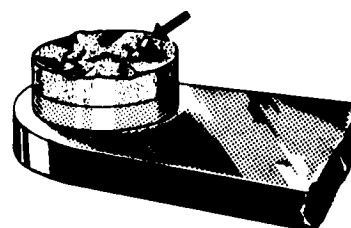

Figure 8-10. Contact Points.
- g. Remove the breaker cover and harness securing screws and nuts and separate cover from magneto housing. Check contact assemblies to see that cam follower is securely riveted to its spring. Examine the contact points for excessive wear or burning. Figure 8-10 shows how the average contact point will look when surfaces are separated for inspection. Desired contact surfaces have a dull gray, sandblasted (almost rough) or frosted appearance over the area where electrical contact is made. This means that points are worn in and mated to each other, thereby providing the best possible electrical contact and highest efficiency of performance.
- h. Minor irregularities or roughness of point surfaces are not harmful (refer to Figure 8-10, center), neither are small pits or mounds, if not too pronounced. If there is a possibility of pit becoming deep enough to penetrate pad, Figure 8-10, right, reject contact assembly.